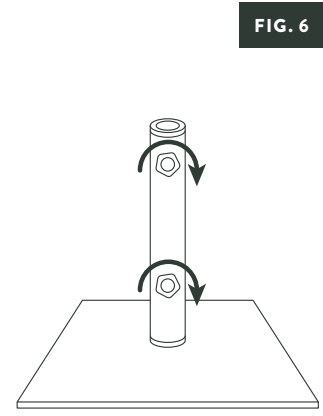

FIG. 6
2. Screw the knob(s) into place on the pole. (Fig. 6)